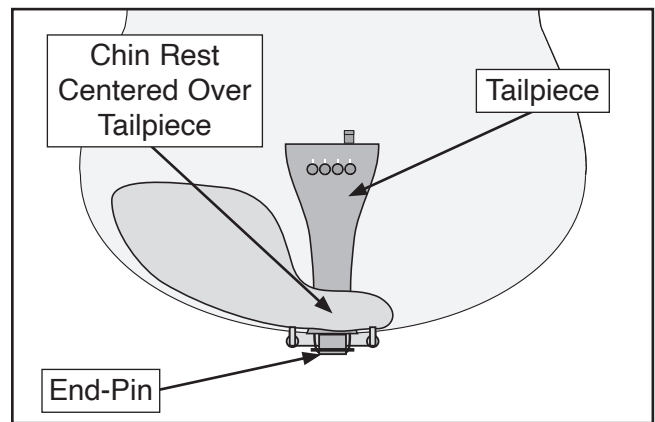

Figure 19. Chin rest installed.
9. Place chin rest bracket and chin rest over tailpiece and end-pin (see **Figure 19**).